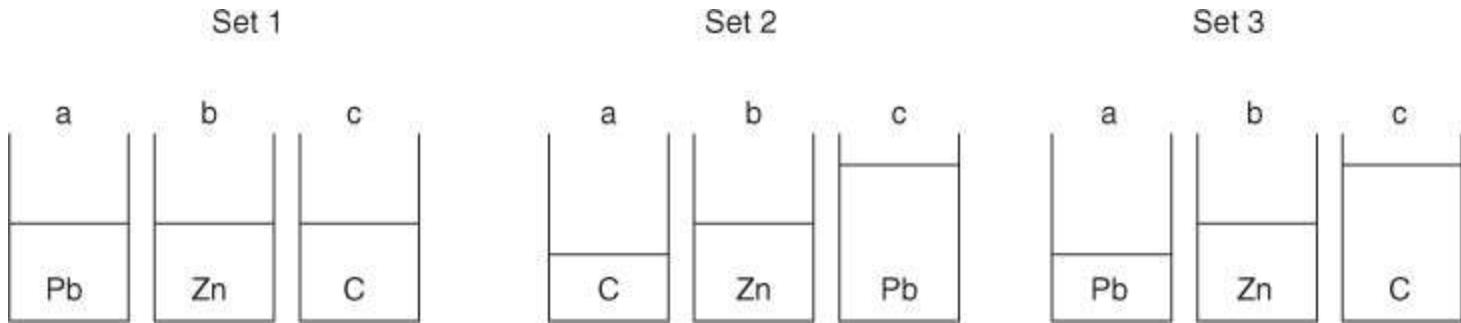

Figure P2.8.3
***2.8.3.** Which of the three sets of containers in Figure P2.8.3 represents respectively 1 mol of lead (Pb), 1 mol of zinc (Zn), and 1 mol of carbon (C)?